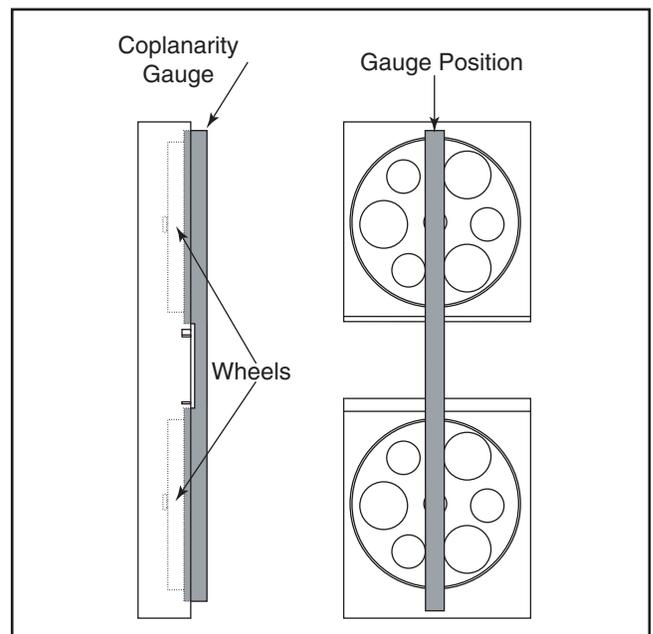

Figure 55. Coplanarity gauge positions.
4. Place your coplanarity gauge up against both wheels in the position shown in **Figure 55**, making sure that the gauge fully extends across the wheels.